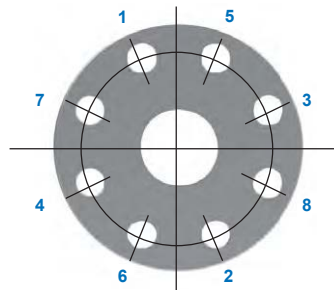

Figure 4 :
22. Carefully lower the discharge collar (02) onto the body using the studs for guidance.
23. It is important to position the drain port (19) towards the bottom of the valve or 180 degrees from the stem position.
25. Once all studs are lubricated, the discharge collar nuts (11B) can be installed on the studs. Torque each nut to its indicated value. Using Figure 4 as reference.